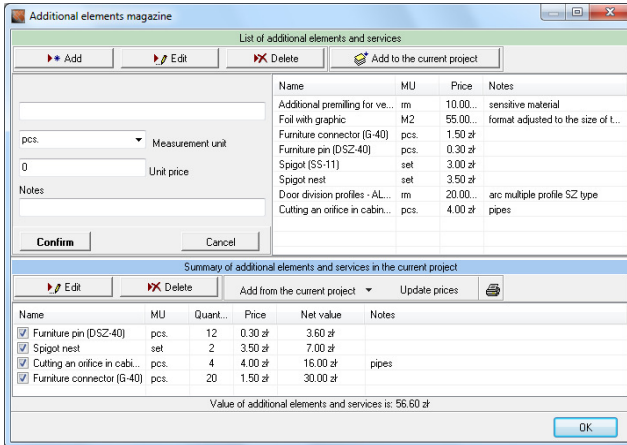

Fig. 65 – adding a new element to the magazine
Users have full freedom in defining additional elements. You can list here all necessary action and operations, materials, tools or accessories, which are needed to realize the project. After clicking the **'Add'** button you can define the name of an element or service, their quantity, the measurement unit (MU) (by selecting it from a list or entering the text manually – Figures 65 and 66) and the unit price. Optionally you can also add notes.
- **Add** - opens a new panel in the same window, in which data of a new element can be entered (Fig. 65). Then the newly added position can be moved to the current project by dragging-and-dropping or by clicking the **'Add to current project'** button. If the price and quantity were specified, the program will calculate the total cost;
- **Add to the current project** - after indicating an item to move and this selecting option, you will see a dialog box called **'Number of positions added to the project'**, in which you can specify, how many items should be taken from the magazine and added to the current project (Fig. 67). You can see elements moved to the project on the above illustration (Fig. 65).